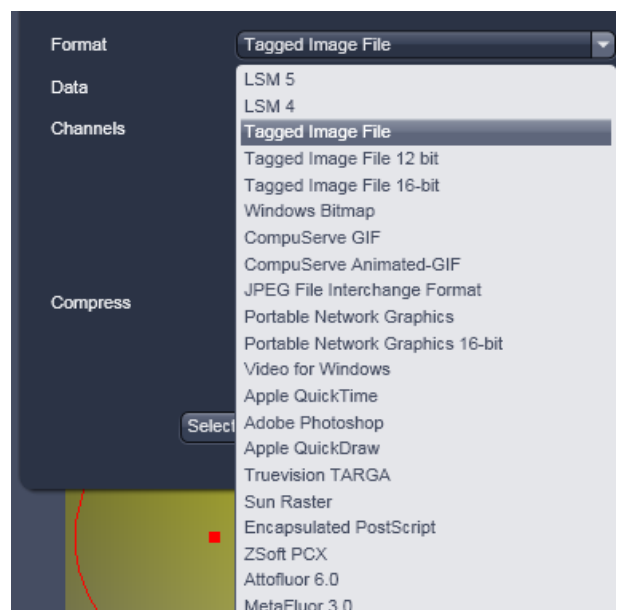

Fig. 647 Format selection
- Under **Format**, select the format to which the image is to be exported to (Fig. 647).